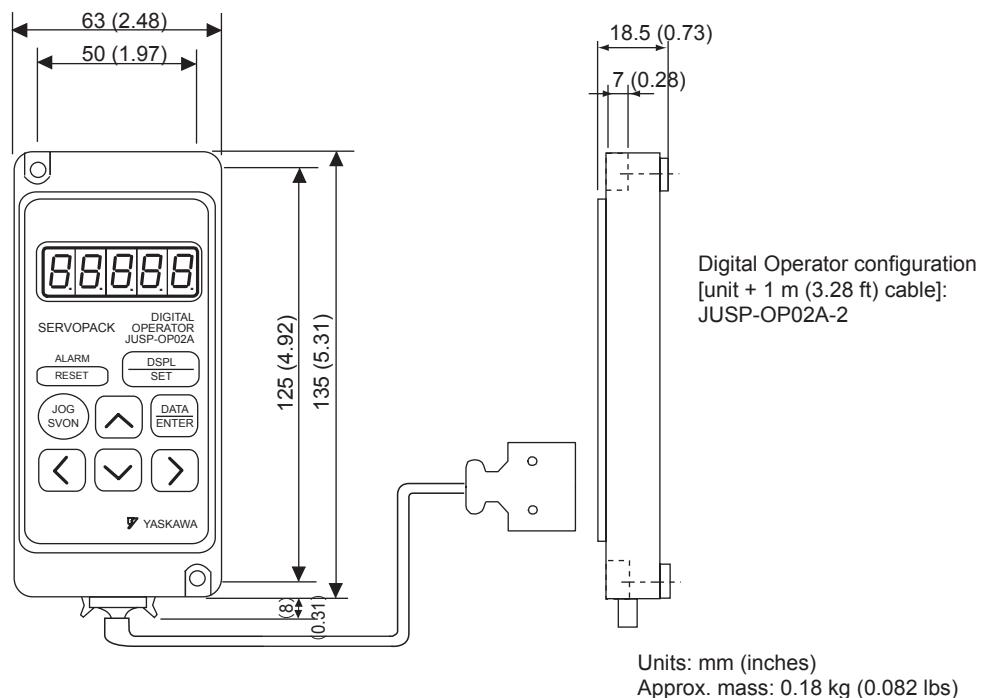

Fig. 7.4 Digital Operator
*Fig. 7.4* shows the Digital Operator (unit + cable) and cable configuration.